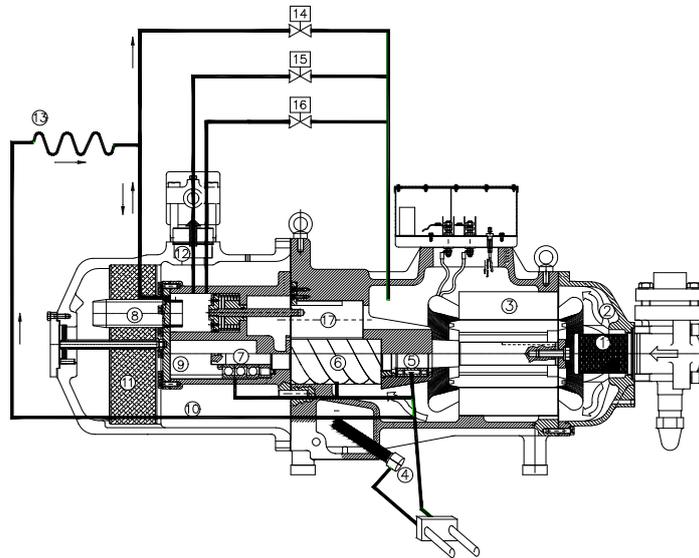

Fig. 19: step capacity control oil circuit
The cylindrical chambers that house the screw rotors are fitted with a longitudinal port, whose connection with the suction side is regulated by the position of the slide valve (17), see Fig. 19.